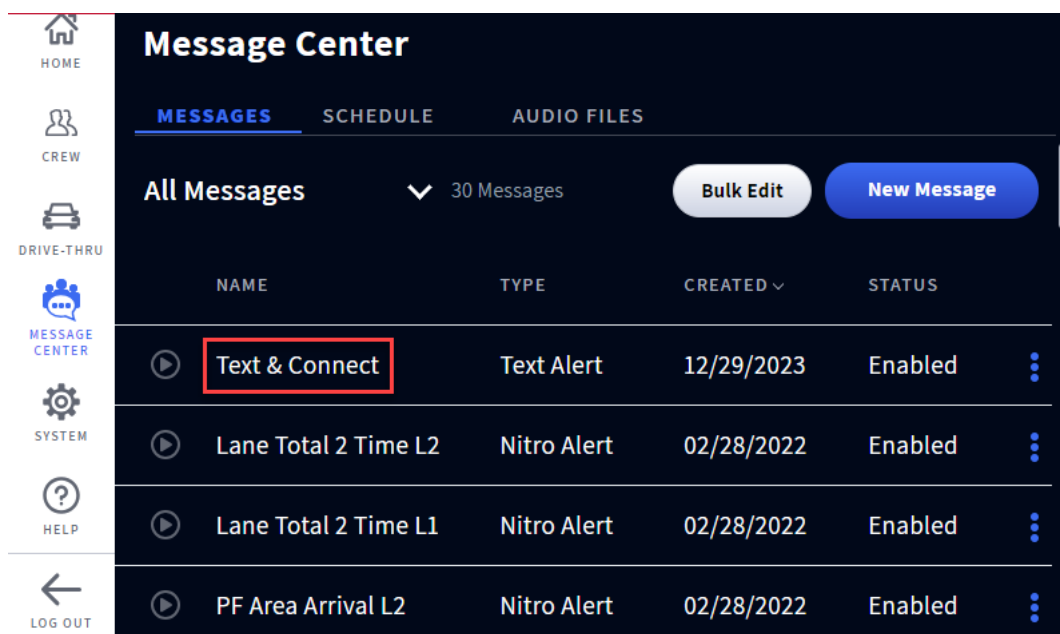

Fig. 8.8
1. Once Voice Commands have been enabled, "Text & Connect" will appear in the NAME column on the Message Center>Messages page. See Fig. 8.8.